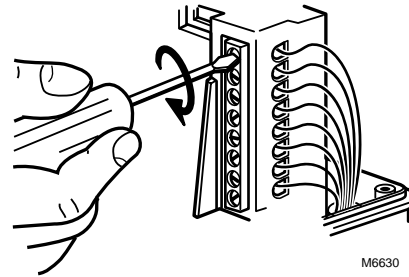

Fig. 5. Connecting power and control wiring.
1. Feed power and control wires through the conduit connector located on the bottom of the actuator case. See Fig. 5.